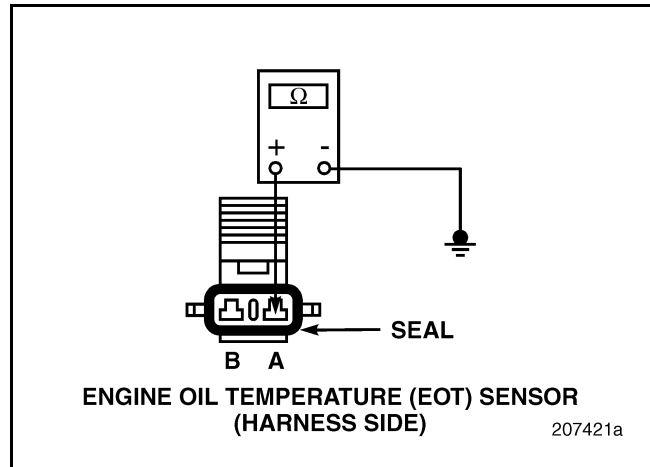

Figure 285
4. Check for continuity between pin A of the EOT Sensor harness connector and a good ground (see Figure 285).